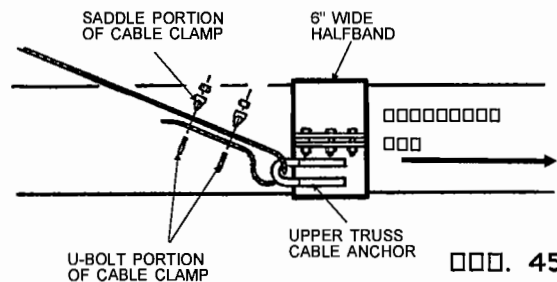

FIG. 45
- Step 7. Mount the upper truss cable anchors to auger tube using a 6" wide halfband and six 3/8" x 1 1/2" long (grade 5) hex head capscrews and nylon locknuts. NOTE: The upper truss cable anchor is mounted on the under side of the tube. See Fig. 45 on page 34.
Step 13. Attach truss cables to upper cable anchors using two cable clamps per each cable. NOTE: Secure the clamp u-bolts against the loose end of the cable. See Fig. 45.